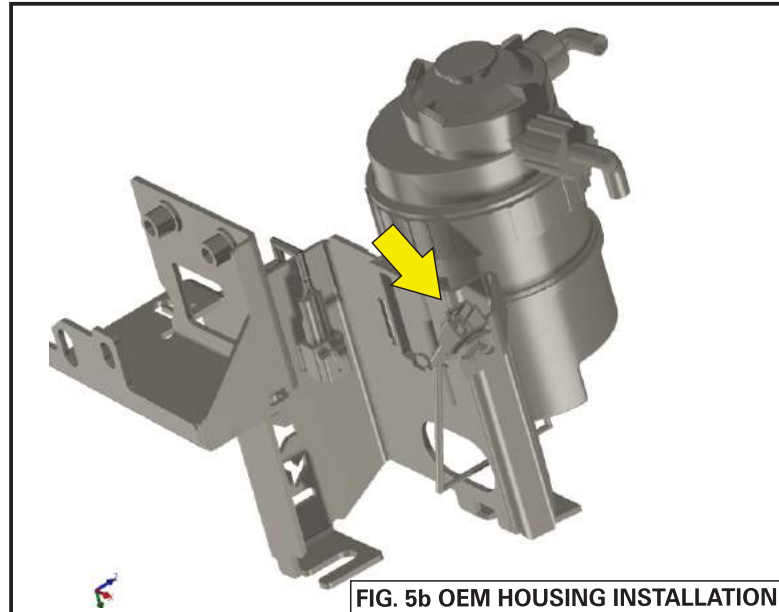

FIG. 5b OEM HOUSING INSTALLATION
12. Clip the female OEM Deutsch connect#1 onto the slot as shown in Fig.5b.